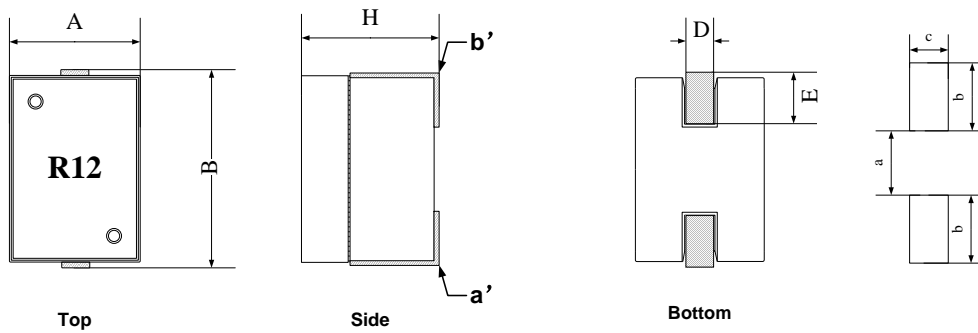

Fig.3-1
Dimensions and recommended PCB pattern for reflow soldering, please see Fig.3-1 and Table 3-1.
- ※4: Nominal DCR is measured from point a' to point b'. (see Fig. 3-1)